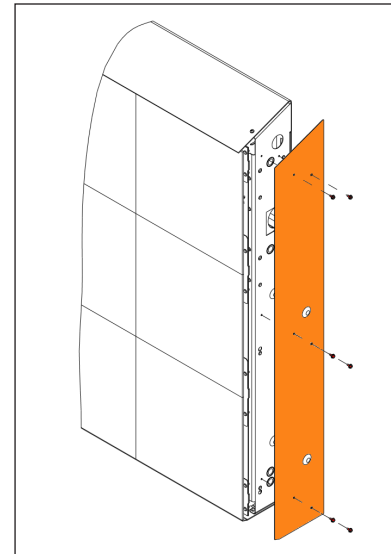

Figure 3: Install Border
3. Bring the border into position. The flange should be oriented to the front of the display with the formed offset feature positioned to fit over the protruding alignment pyramid of the corner block. Refer to **Figure 3**.